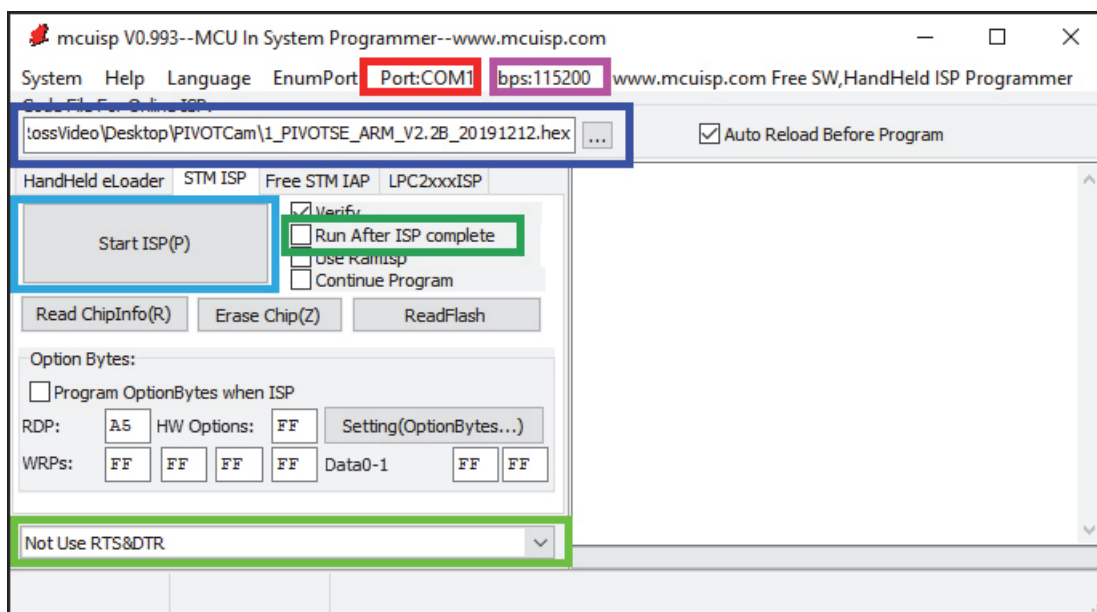

Figure 3 - MCU ISP application, with colored boxes showing controls that are mentioned in the steps of this procedure
Tip: In this example we are using **COM1**, (outlined in red in Figure 3), but you need to set it according to your computer.
7. Set the **Baud rate** to **115200** (outlined in purple in Figure 3).
8. Browse to find and select the **ARM** firmware file (see box outlined in dark blue in Figure 3).
9. Clear the **Run after ISP complete** check box (outlined in dark green in Figure 3).
10. In the list at the bottom of the MCU ISP tool, select **Not Use RTS&DTR**. (outlined in light green in Figure 3).
11. Power **ON** the camera and then in the **MCU ISP** application, click the **Start ISP** button (outlined in light blue in Figure 3).